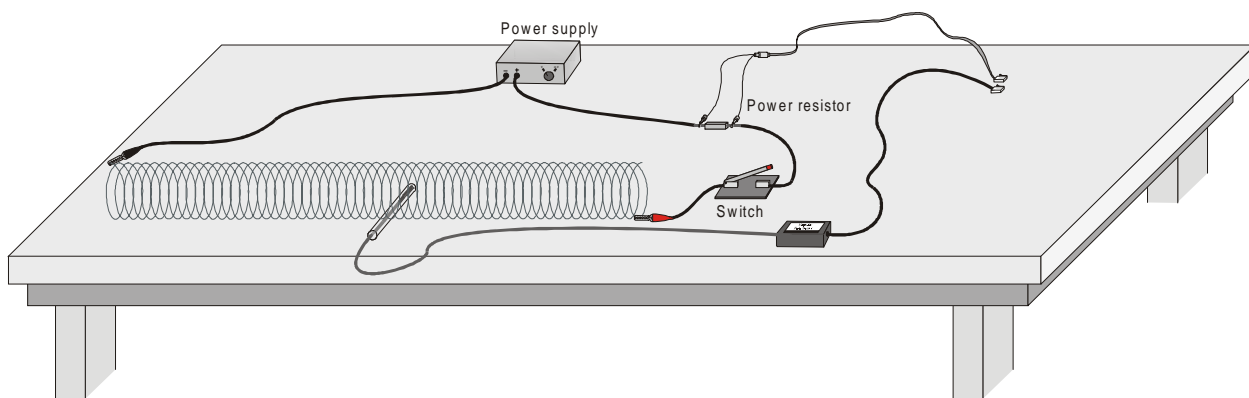

Figure 1
2. Set up the circuit and equipment as shown in Figure 1. Connect the Voltage Probe across the resistor, with the positive (red) lead on the side of the resistor connecting to the positive side of the power supply. Wires with clips on the end should be used to connect to the Slinky.
5. If the handheld displays VOLTAGE(V) in CH 1 and MAGNET F(mT) in CH 2, proceed directly to Step 6. If it does not, continue with this step to set up your sensors manually.
For the second part of the experiment, you will determine the relationship between the magnetic field in the center of a coil and the number of turns of wire per meter of the solenoid. You will keep the current constant. Leave the Slinky set up as shown in Figure 1. Position the sensor as it was before, so that it measures the field down the middle of the solenoid. You will be changing the length of the Slinky from 0.5 to 2.0 m to change the number of turns per meter.